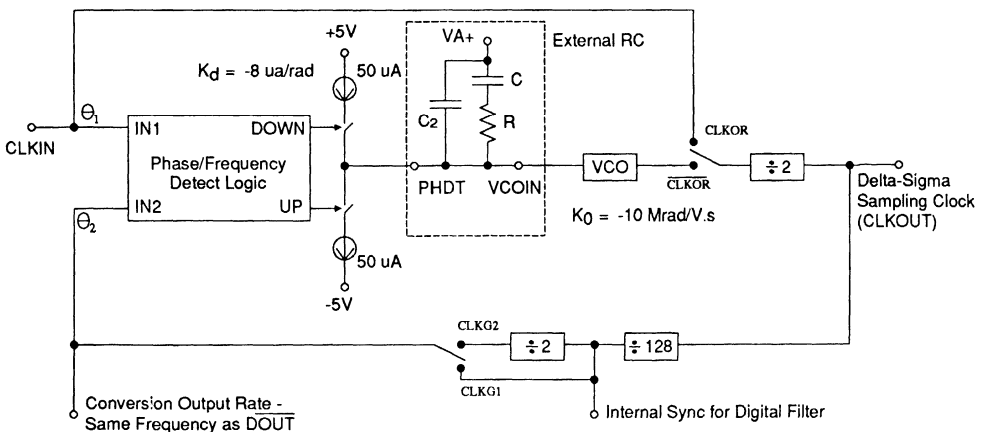

Figure 5. PLL Functional Diagram
A phase-locked loop is included on the CS5317 and is used to generate the requisite high frequency A/D sampling clock. A functional diagram of the PLL is shown in Figure 5. The PLL consists of a phase detector, a filter, a VCO (voltage-controlled oscillator), and a counter/divider. The phase detector inputs are CLKIN (θ_1) and a sub-multiple of the VCO output signal (θ_2). The inputs to the phase detector are positive-edge triggered and therefore the duty cycle of the CLKIN signal is not significant. With this type of phase detector, the lock range of the PLL is equal to the capture range and is independent of the low pass filter. The output of the phase detector is input to an external low pass filter. The filter characteristics are used to determine the transient response of the loop. The output voltage from the filter functions as the input control voltage to the VCO. The output of the VCO is then divided in frequency to provide an input to the phase detector. The clock divider ratio is a function of the PLL mode which has been selected.
quency is compared to the CLKIN frequency in the phase detector. The binary counter/divider ratio sets the ratio of the VCO frequency to the CLKIN frequency. As illustrated in Figure 5, the VCO output is always divided by two to yield the CLKOUT signal which is identical in frequency to the delta-sigma modulator sampling clock. The CLKOUT signal is then further divided by either 128 in the CLKG1 mode or by 256 in the CLKG2 mode. When the divide by two stage is included, the divider ratio (N) for the PLL in the CLKG1 mode is effectively 256. In the CLKG2 mode the divider ratio (N) is 512.
In some applications additional filtering may be useful to eliminate any jitter associated with the discrete current pulses from the phase detector. In this case a capacitor whose value is no more than 0.1 C can be placed across the RC filter network (C₂ in Figure 5).